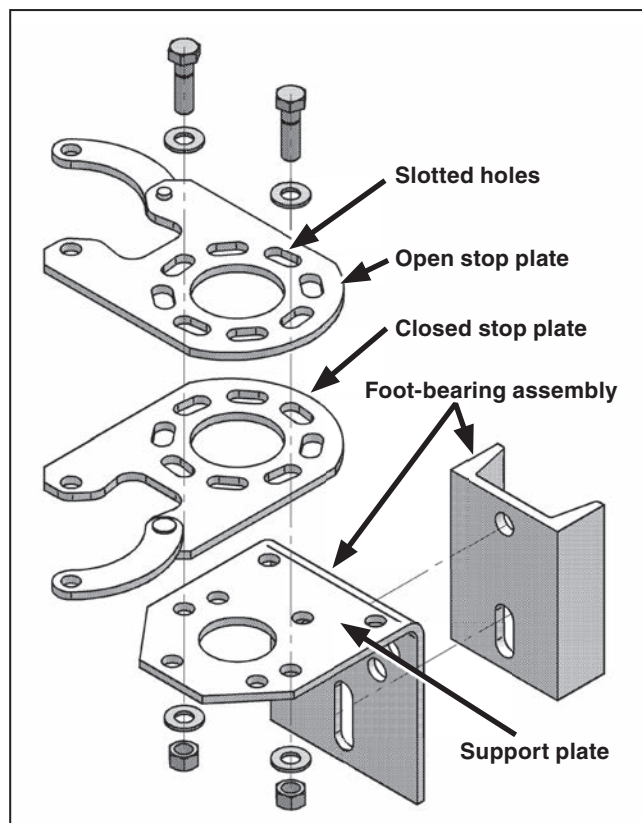

Figure 41. Stop plates and foot-bearing assembly—exploded view.
**STEP 39.** The stop plate holes are slotted to allow room for adjustment. Loosen the bolts that secure the adjustable stop plates to the foot-bearing support plate. See Figure 41. Place the switch in the fully open position. Adjust the open-position stop plate so the handle, when lowered, fits into the open-position slot. Mark on the support plate the location of the open-position stop plate.
- Loosen the hardware securing the closed stop plate. See Figure 41 on page 25.
- Lift the handle out of the way and rotate the stop plate an additional 15 degrees counterclockwise from the mark. Make sure the open stop plate lines up with the open stop plate mark made in Step 39. Tighten the stop plate hardware to 40 ft-lbs. See Figure 41 on page 25.